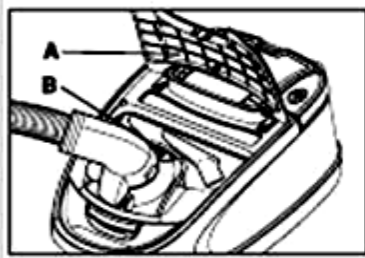

Fig. 5.1
**Cleaning Tool Storage** – The cleaning tools are conveniently stored in the cleaner underneath the tool lid, Fig. 5.1, (A). Push the tool lid release latch to open, (B). The cleaning tools have many uses. Select the tool best suited for the cleaning task from the following descriptions.
**Select the Proper Tool** – Fig. 5.1, The Combination tool, (A), may be used for carved furniture, table tops, lighting fixtures, venetian blinds and heating registers. It may also be used for upholstered furniture, and draperies. Slide the combination tool apart to reveal the second tool, Fig 5.4. The crevice tool, (B), may be used in tight spaces, corners and along edges.